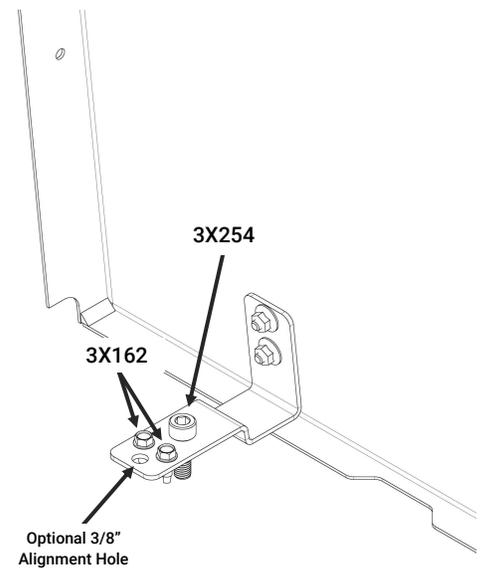

Figure 5
- D. Position the Support Bar on the driver side to line up with the Driver Lower Barrier Bracket and then insert (1) 5/16-18 button head screw [3X149] into the support bar and loosely attach (1) 5/16-18 whiz nut [3X619]. Repeat for the passenger side Support Bar with the remaining button head screw and whiz nut.
- E. Locate the (2) remaining M10 socket cap screws [3X254] and the (4) self drilling hex head screws [3X162].
- F. Starting on the driver side, align the large hole closest to the barrier in the Lower Barrier Bracket with the threaded hole in the OEM crossmember. Loosely thread (1) M10 socket cap screw [3X254] through the hole. Repeat on the passenger side with the remaining M10 screw.
- H. Making sure the bracket stays aligned, use a 3/8" socket to drive (1) self drilling screw [3X162] into each of the (2) small holes on the Lower Barrier Bracket. Remove the 3/8" alignment bolt if one was used. Figure 5 shows a fully fastened Lower Barrier Bracket.